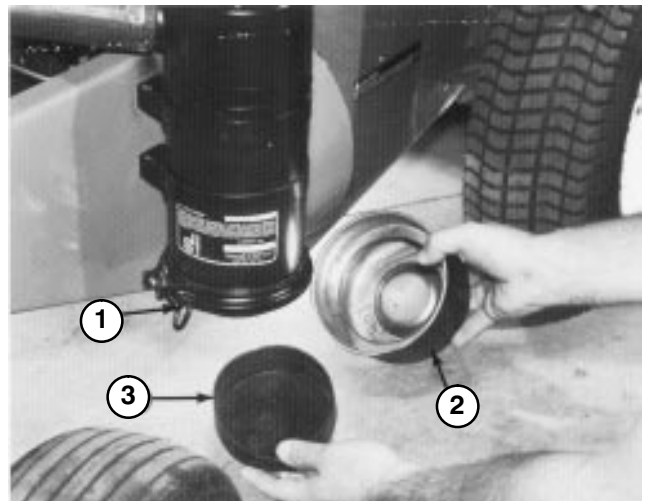

Figure 45
1. Loosen thumb screw until dust cup and baffle can be removed (Fig. 45). Separate dust cup and baffle.